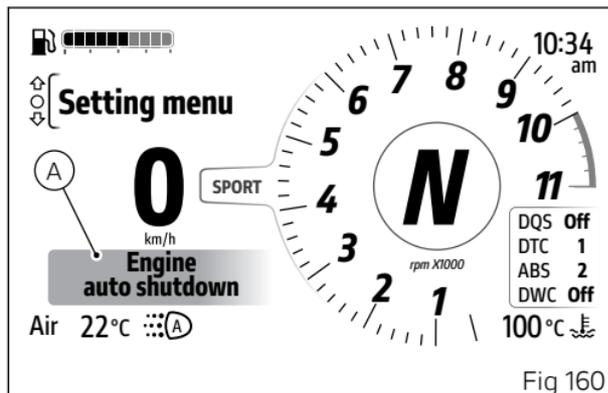

Fig 160
- “Engine auto shutdown” (A, Fig 160)